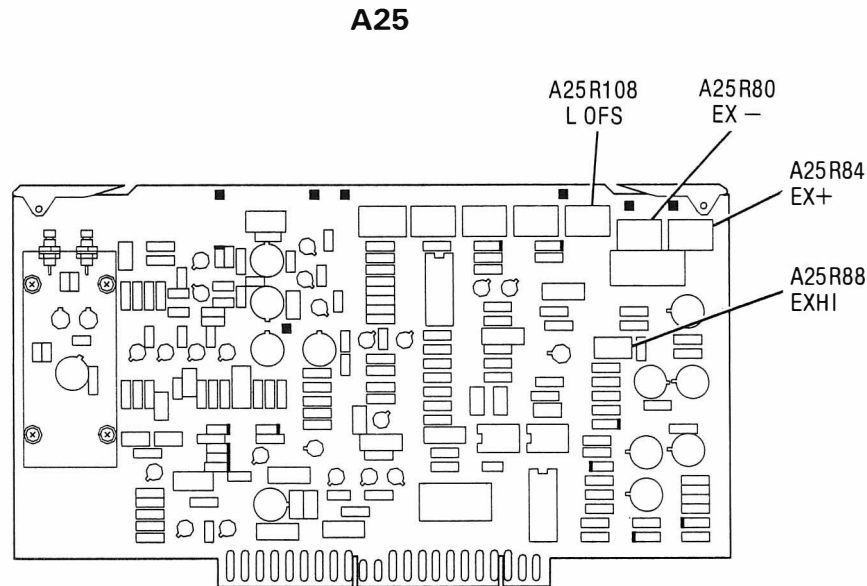

Figure 5-62. Flatness and External Leveling Adjustments Location
30. Access Calibration Constant Number 13 by entering the following: [SHIFT] [GHz] [1] [3] [Hz] [SHIFT] [MHz] [1] [2] [Hz] [SHIFT] [kHz] [2] [2] [Hz]. Adjust Calibration Constant Number 13 for a power meter indication of P. Then adjust A25R108 LOFS (Figure 5-62) for a 0 dBm power meter indication.